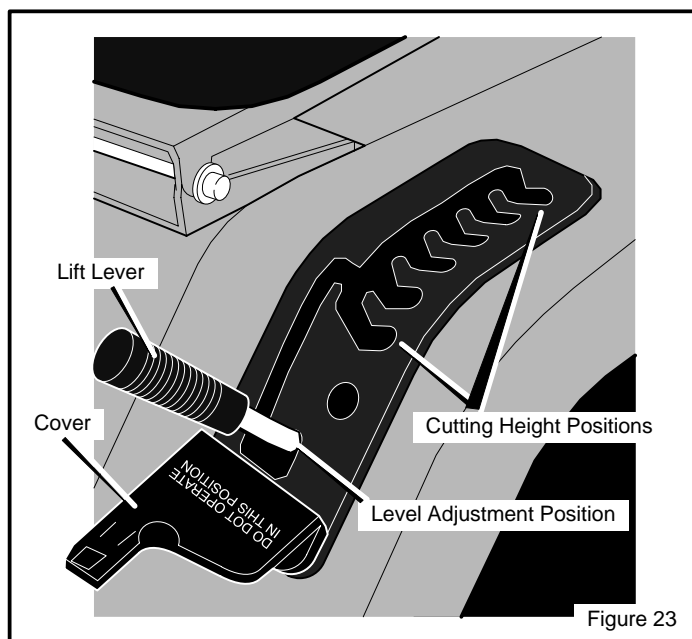

Figure 23
5. Move the **lift lever** to the LEVEL ADJUSTMENT position (Figure 23).